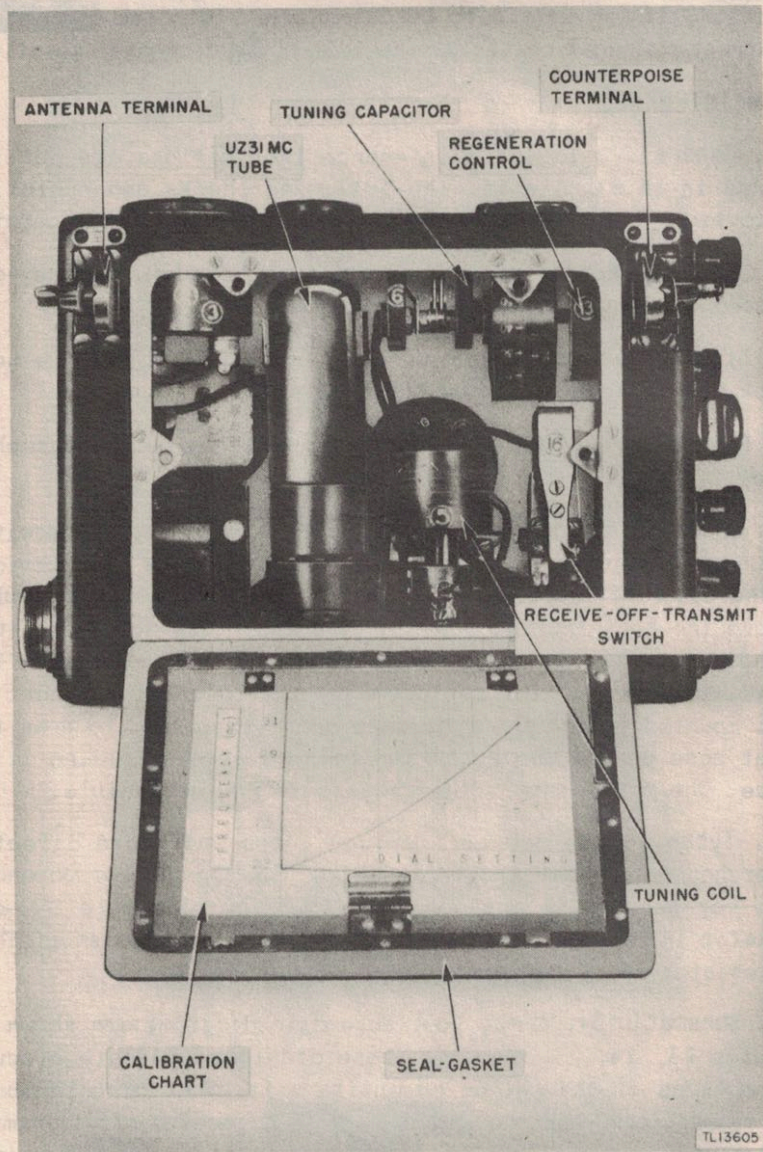

Figure 21. Japanese Radio Set Model 97 Light Wireless Set, rear case door open, with name tabs.
(1) Refer to the calibration chart on the inside of the rear case door (fig. 21) to determine the setting of the 同調 (tuning dial) for the desired frequency. The numbers on the 同調 (tuning dial) correspond with those on the bottom of the chart and the frequencies in megacycles appear on the left side of the chart. To obtain a dial setting for a specific frequency, read that frequency on the chart and move across to the right until that frequency line intersects the calibration curve. Then drop directly down to read the proper dial setting for that frequency.